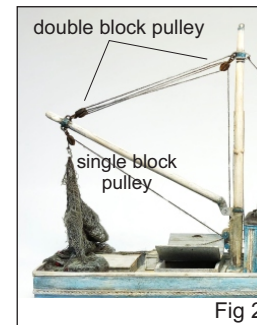

Fig 2
remaining hole on the double block pulley on the boom and then back up to the remaining hole on the pulley on the mast. Thread this end of the rope down and over the mast winch drum, wrapping it around several times. Tie it off or coil the remainder on the deck, whichever you prefer. **Fig 2**
- From the brass sheet, remove a cargo hook and tie it to a length of rope. Thread the rope up and through the single block pulley hanging from the bottom of the boom. **Fig 2**